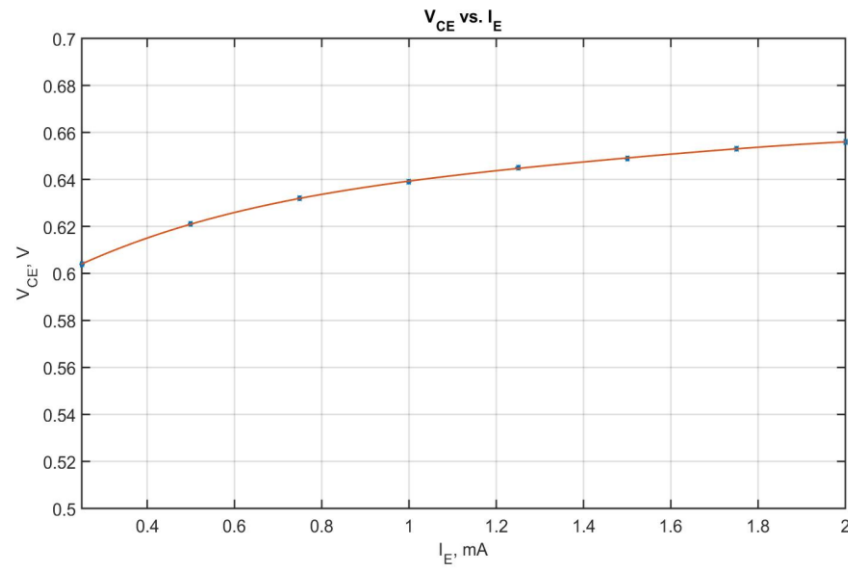

Fig. 5. Diode-connected transistor V_{CE} vs. I_E , measured data with 4th – order polynomial curve fit.
2. Plot the measured data from Table 3 on a graph of V_{CE} vs. I_E . Create a 4th-order polynomial curve fit to the data and plot that curve on the same graph. Restrict the I_E axis to range used for measurements. On a separate graph, plot $R_o = dV_{CE}/dI_E$. Figs. 5 and 6 show example plots. Appendix 2 has the MATLAB code used to obtain the example with measured data removed from the arrays.